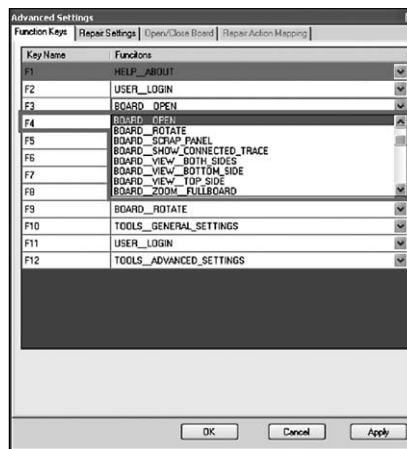

Figure 6: A list of available functions
2. To enable a function key (key **F3** is used in this example) to be assigned the function of viewing expanded image, click to open the drop down box for the key **F3** to view a list of available functions that can be assigned as show in Figure 6.